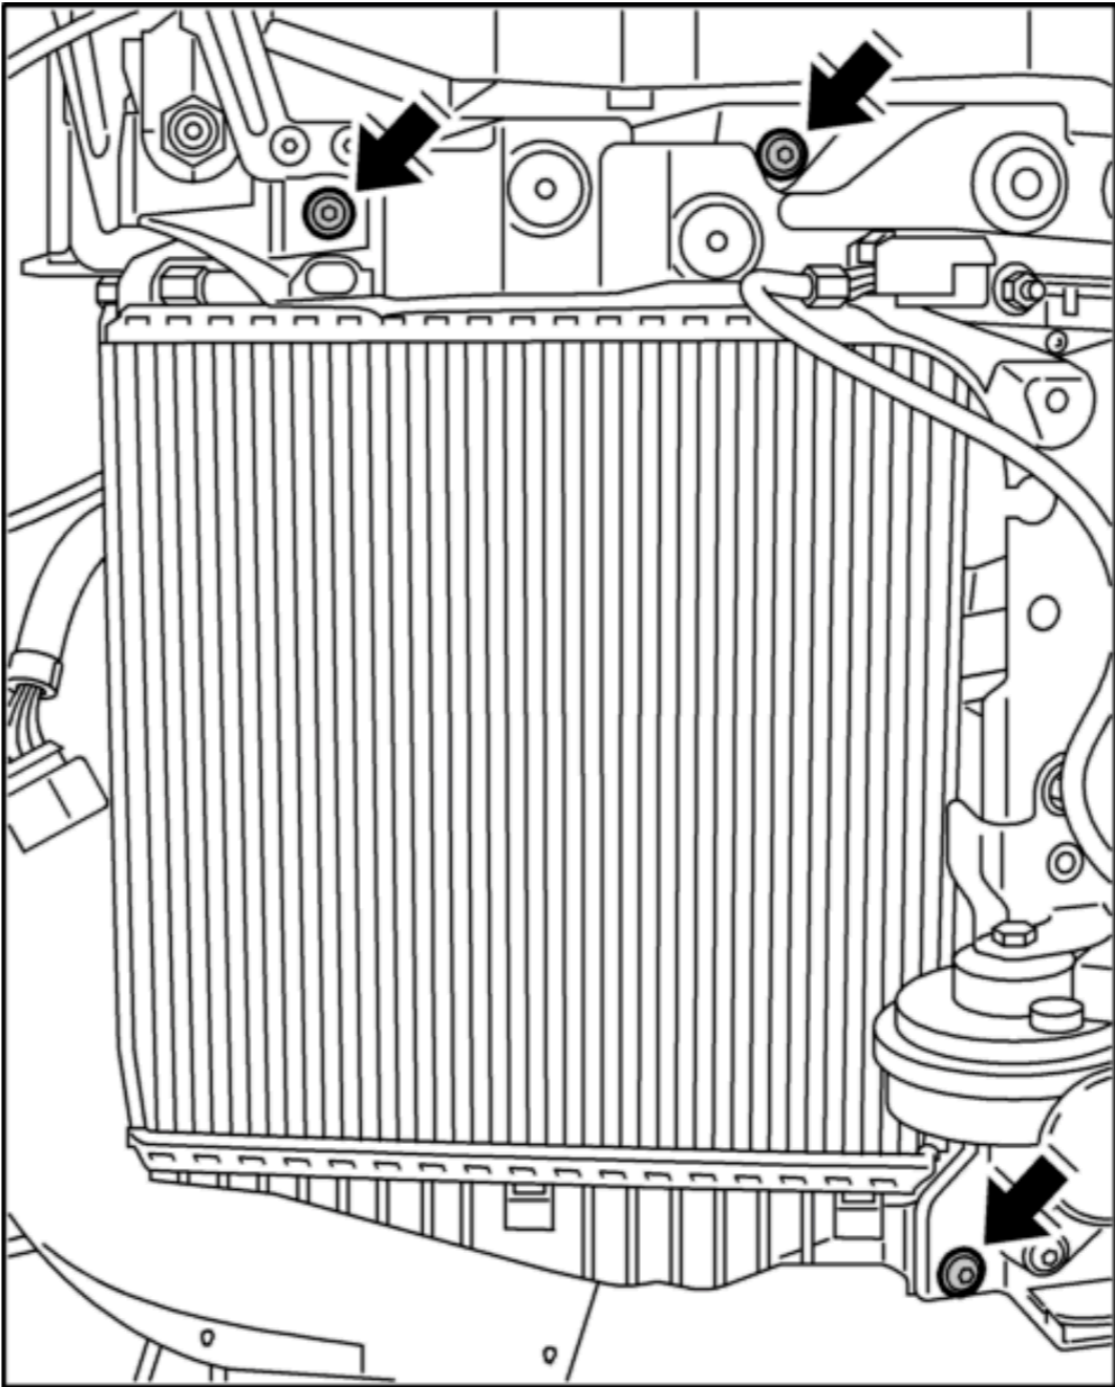

Fig. 51: Fastening screws on the charge air cooler
6. Unscrew the three fastening screws on the charge air cooler -arrows- , press the charge air cooler carefully towards the tires and remove sideways. See **Fig. 51**.
6. Unscrew the three fastening screws on the charge air cooler **-arrows-** , press the charge air cooler carefully towards the tires and remove sideways. See **Fig. 51**.